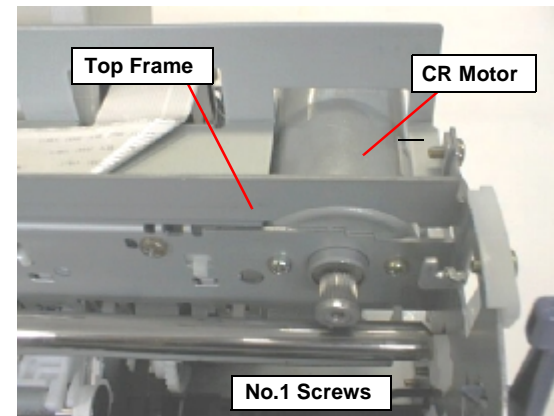

Figure 4-18. Removing the CR Motor Assembly
- 4) Remove two screws (No.1) while holding the CR motor and remove the CR motor assembly. Refer to Figure 4-18.
- 3) Loosen the Timing Belt by pushing the Driven Pulley Holder and remove the Timing Belt from the pinion gear of the CR motor. Refer to Figure 4-18.